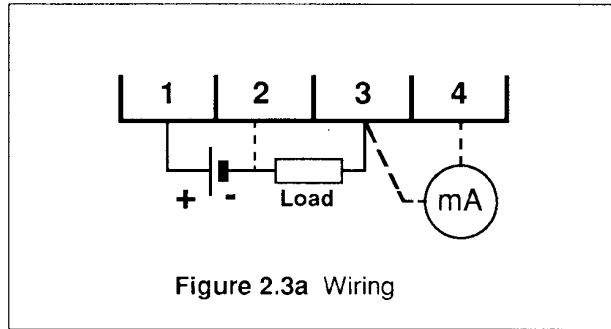

Figure 2.3a Wiring
- Bring the cable to the terminal block (16) through the Pg13.5 inlet gland (32) and make sure that the rubber packing on the gland is of suitable size and provides a good seal.
- Connect the wiring as shown in Figure 2.3a.